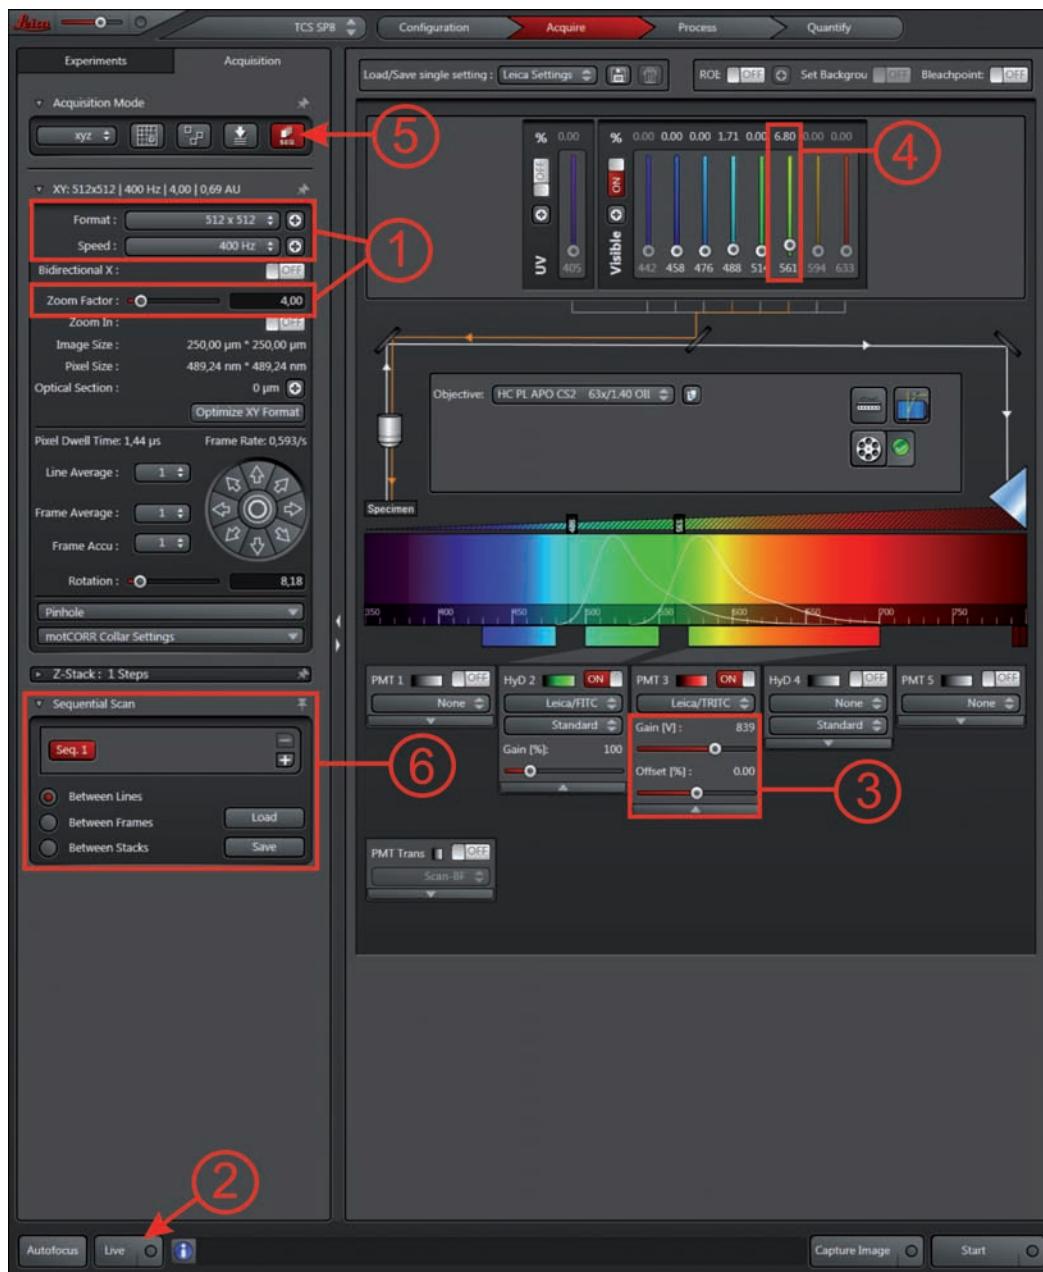

Figure 6: Defining the first sequential setting
2. Select the desired scan format, scan speed and zoom factor (**Fig. 6, 1**). In **Live** scanning mode (**Fig. 6, 2**), the detector gain and the offset values as well as the intensity of the excitation wavelengths (**Fig. 6, 3 and 4**) can be optimized.
4. Click the **SEQ** button in the **Acquisition Mode** (**Fig. 6, 5**) panel to open the **Sequential Scan** dialog. In the default setting, the first sequence is already active in the **Between Lines** mode (**Fig. 6, 6**).
4. Select the desired scan format, scan speed and zoom factor (**Fig. 6, 1**). In **Live** scanning mode (**Fig. 6, 2**), the detector gain and the offset values as well as the intensity of the excitation wavelengths (**Fig. 6, 3 and 4**) can be optimized.
9. In **Live** scanning mode (**Fig. 6, 2**), the detector gain and the offset values as well as the intensity of the excitation wavelengths (**Fig. 6, 3 and 4**) can be optimized.